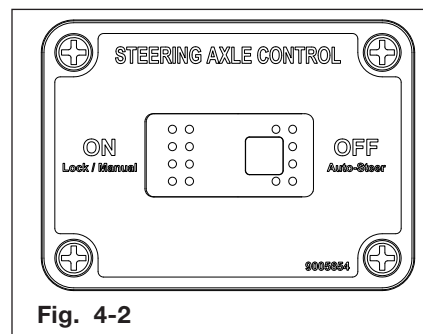

Fig. 4-2
3. Make sure the steering axle control switch is in the OFF/Auto-Steer position. (Fig. 4-2)